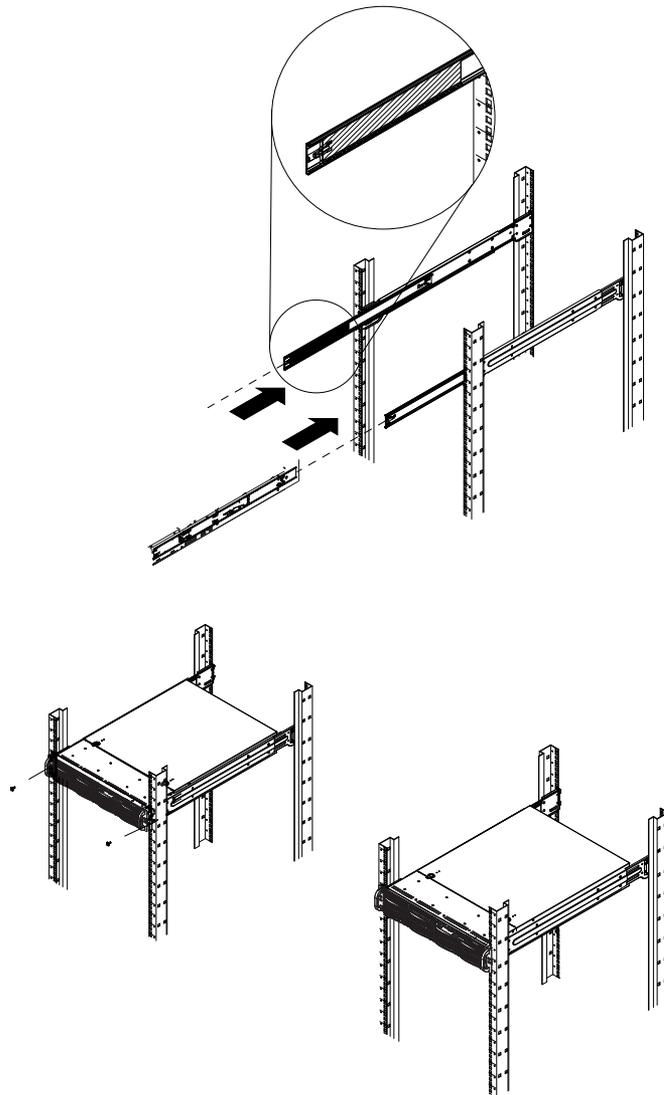

Figure 2-5 Installing the Server in the Rack
1. Extend the outer rails as shown in Figure 2-5 on page 18.